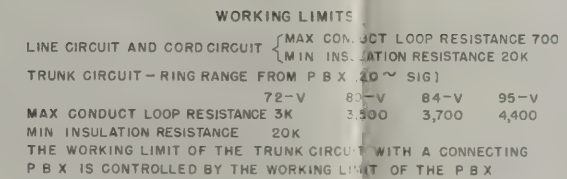

Figure 32. Telephone Switchboard SB-55(\*)/FTC, complete schematic diagram
- p. For wiring diagrams and detailed explanations for testing various circuits in common battery switchboards, refer to figure 32 and also TM 11-4312.